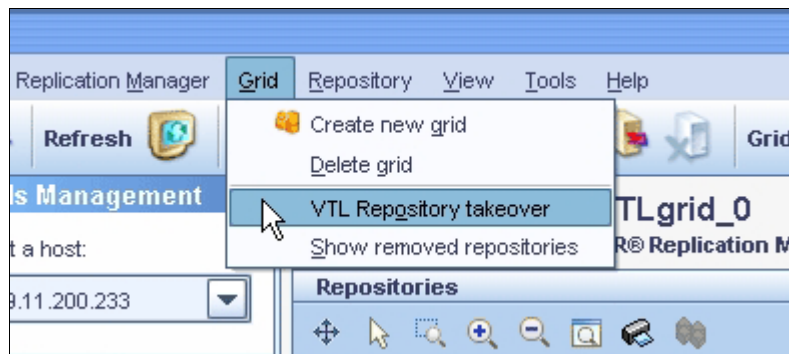

Figure 11-23 ProtecTIER VTL repository takeover
2. Run the Repository takeover wizard by selecting **Grid** → **Repository takeover** (Figure 11-23).